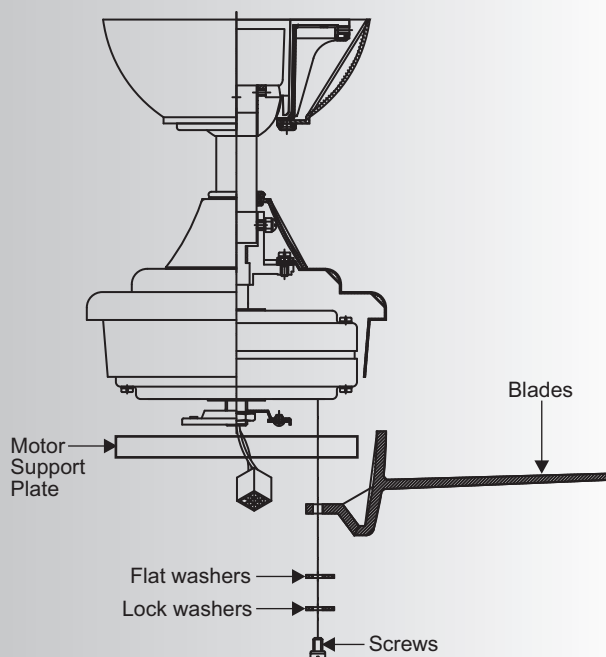

Fig. 14
CAUTION: Motor is shipped with motor support plate to prevent movement during transportation. Remove the motor support plate from fan motor assembly and discard prior to attaching blade arms. (Fig. 14)
Step 1. Attach a blade to the fan motor using the flat washers, lock washers and screws provided. Tighten each mounting screw and then repeat this procedure for each blade. (Fig.14)